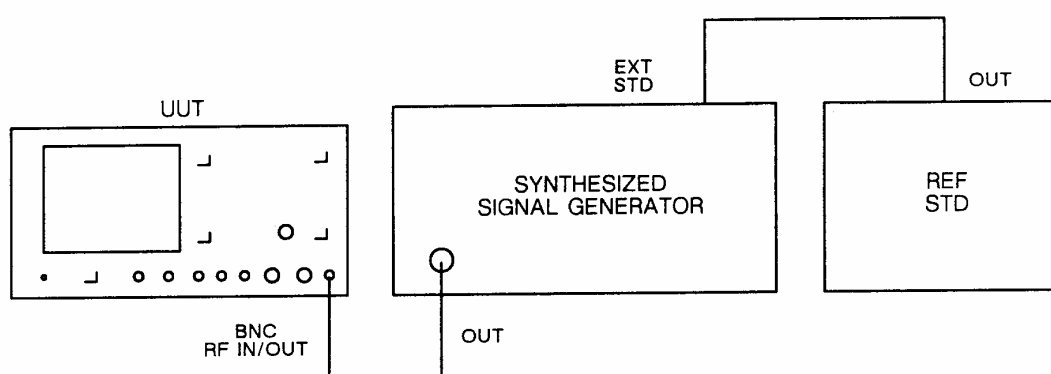

Fig. 5-2-13 Test equipment connections for adjusting R39 on AC1
- (1) Connect the equipment as shown in Fig. 5-2-13, but ensure that the external reference standard has an accuracy better than  $\pm 5$  parts in  $10^{10}$ .